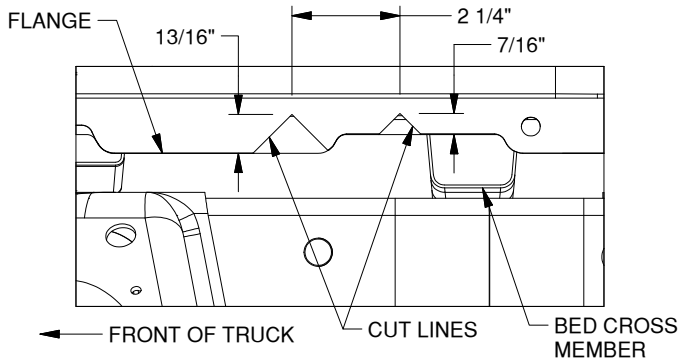

Figure A3: Looking at driver side wheel well.
8. **Modify bed flange.** Cut two small notches in the bed flange just above the frame in the driver side wheel well, as shown in Figure A3. These notches are required for installing the hitch's rear cross member.